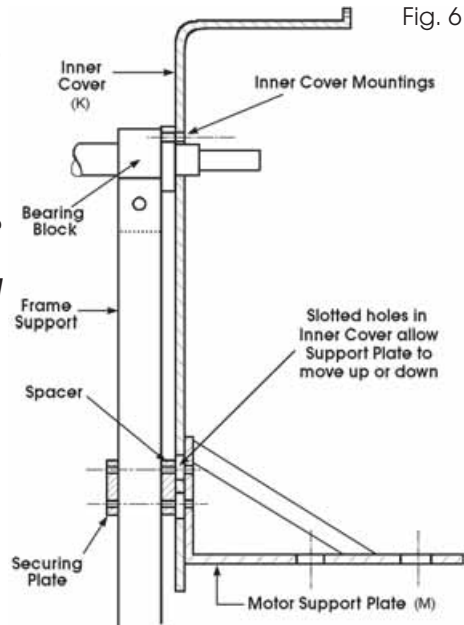

Fig. 6
- 6.2 Bolt on the Motor Support Plate (M), as shown in Fig. 6, by inserting four M6 x 65mm bolts, with flat washers, through the holes in the Support Plate (M), the slotted holes in the Inner Cover (K), and the Spacer, which is inserted between the back of the Inner Cover, and the Frame Support (see fig. 6).